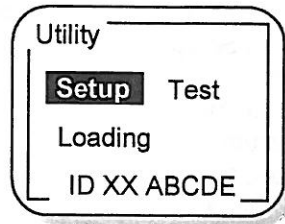

Fig. 3-1
- 1) In order to test the unit's functions, go to the utility screen (Fig. 3-1), position the highlight bar over "Test" and depress the (ENT) key.